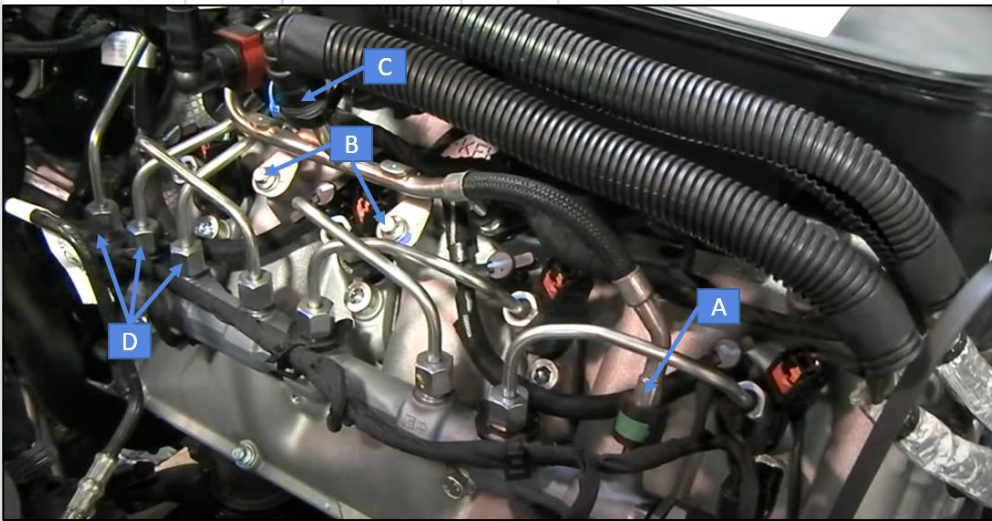
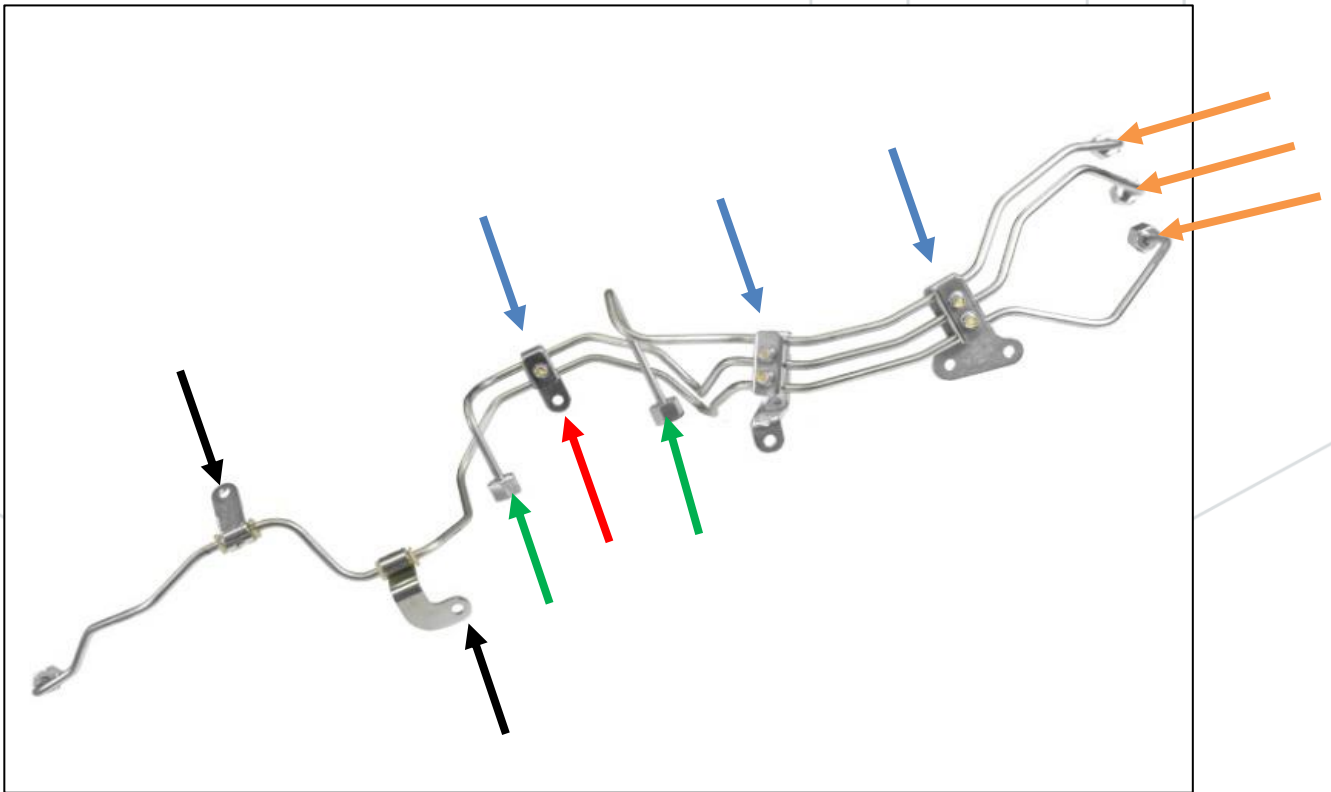

Figure 11: Fuel Line Connection Locations
Figure 19: High Pressure Line Assembly Nut and Bolt Locations
18. Referring to Figure 11 above, disconnect the low pressure return line from the fuel rail (Labeled as A).
- d. The high-pressure line assembly to fuel rail connecting nuts are labeled as D in Figure 11 and colored in orange in Figure 19.
- e. The high-pressure line assembly to CP4 pump connecting nuts are labeled as C in Figure 11 and colored in green in Figure 19.
- f. Remove the five 8mm bolts holding the saddle brackets in place on the high-pressure line assembly colored in blue and the bolt for the rail-to-rail bracket colored in red in Figure 19.
- g. Remove the rail-to-rail crossover bolts below the EGR cooler colored in black in Figure 19 to allow the crossover line to be flexed towards the turbo compressor inlet.
11. Referring to Figures 19, 26, and 28 (labeled as D), install the new high-pressure lines included in the kit.